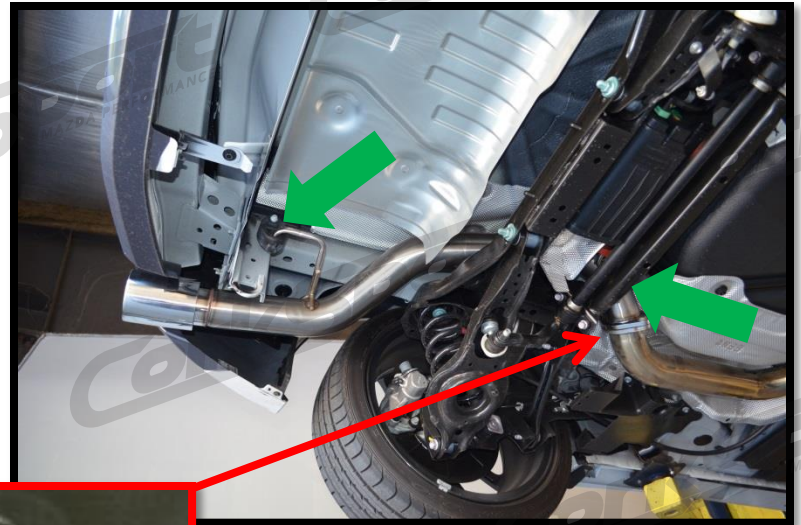

Figure 5a
- a) Guide the axle back section over the sub-frame and hook it into the hangers (green arrows in Figure 5a).
- a) Guide the axle back section over the sub-frame and hook it into the rubber hangers (green arrows in Figure 5a).